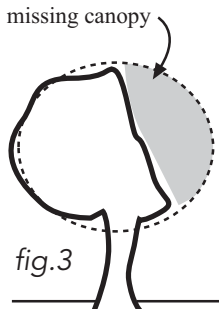

fig.3
- If the tree is missing large branches from storms, over pruning, or canopy suppression, then estimate the percentage of crown missing and subtract this percentage from your dosage (fig.3).